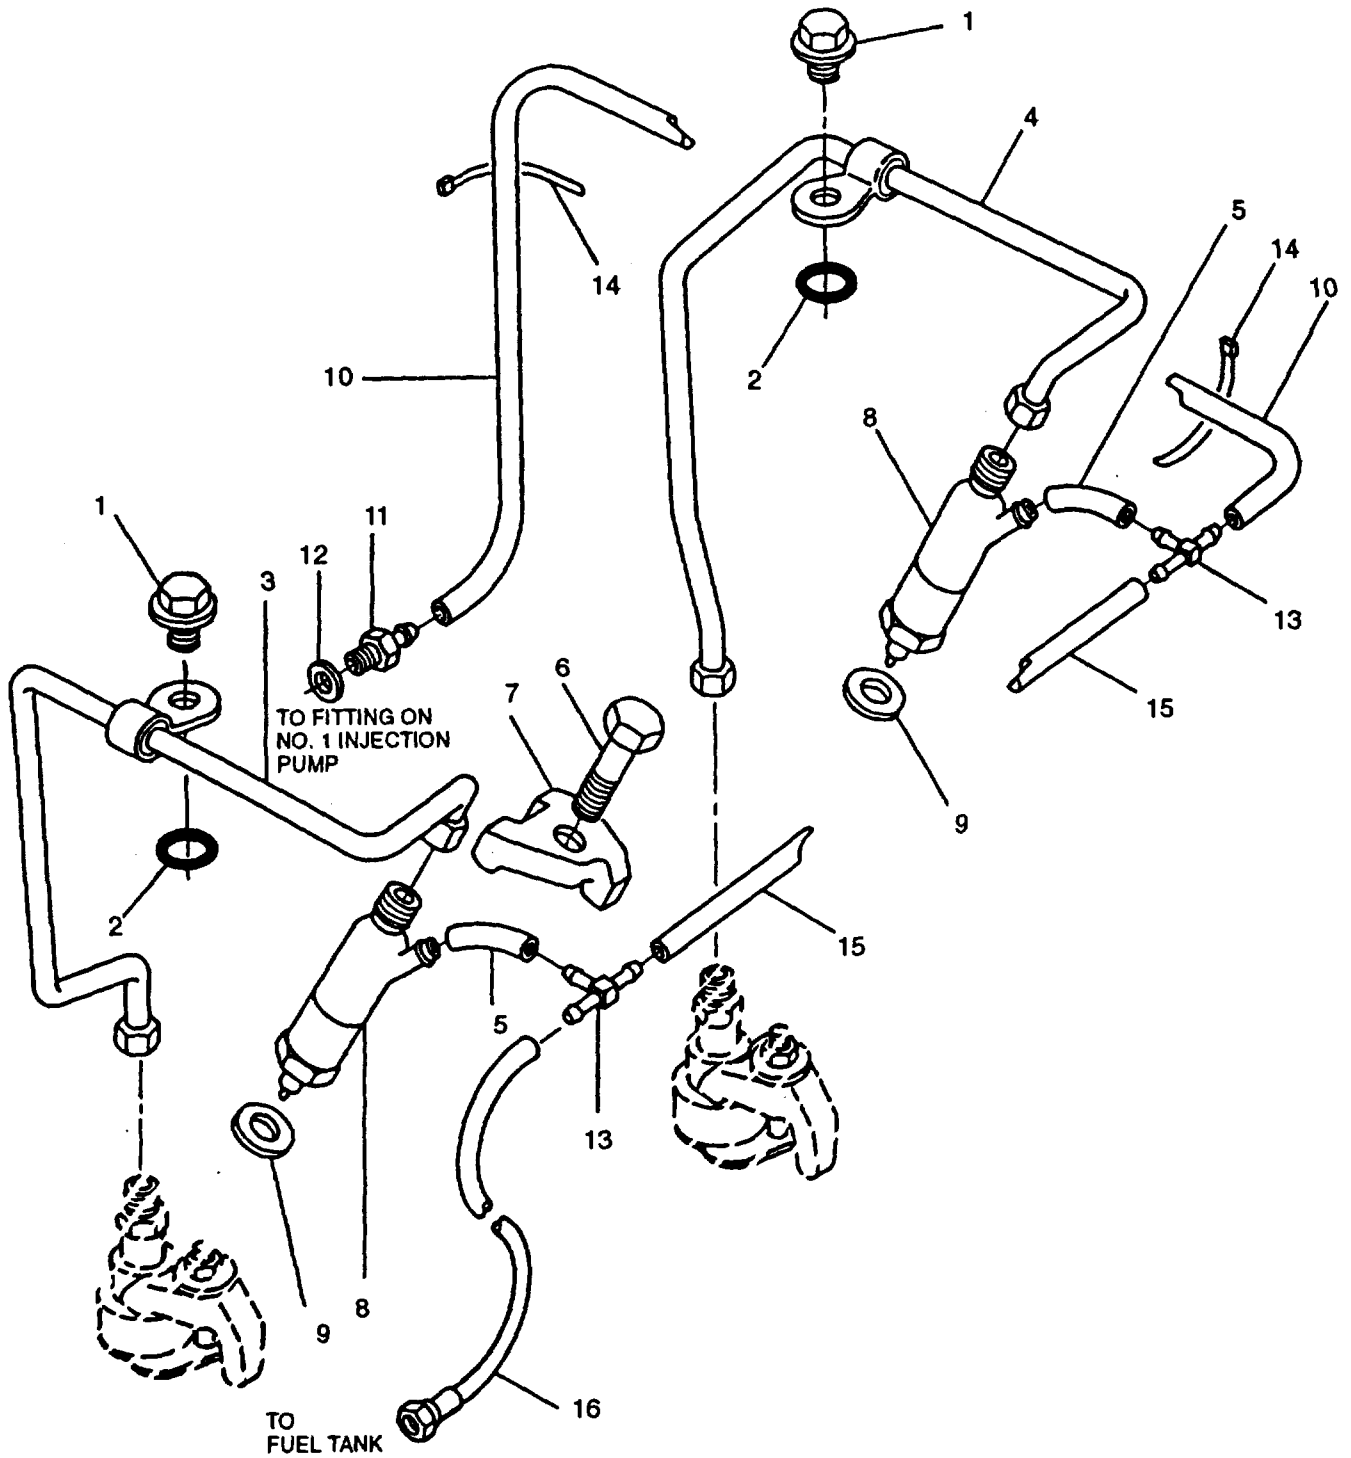

FIGURE 3-13. Fuel Injectors, Fuel Injector Pipes, and Fuel Return Line
- a. Disconnect and remove fuel injector pipe 3-3. or 4, FIGURE 3-13), refer to paragraph 3-18.1
- b. Disconnect fuel return hose (5) from injector (8).
- c. Remove bolt (6) securing clamp (7); remove clamp.
- d. Remove fuel injector (8) from cylinder head.
- e. Remove injector copper sealing washer (9) from cylinder head taking care not to damage seating area.
**If injector sealing washer (9, FIGURE 3-13) has been used more than once it will become compressed and may adversely affect combustion. It is recommended that new injector sealing washers are installed on assembly. Ensure that two washers are not installed to an injector.**
- c. Lightly smear a very small amount of general purpose grease (630AA) to one side of new injector sealing washer (9). Place one washer only over each injector nozzle greased side first.
- d. Install injector (8).
- e. Install clamp (7) and finger tighten bolt (6).
- f. Install a new preformed packing (2) into recess on cylinder head cover.
- i. Tighten injector clamp bolt (6) to 186 in-lbs (21.0 Nm).
- k. Install injector fuel return hose (5).
- a. Disconnect hose (10, FIGURE 3-13) from union (11).
- b. Remove union (11) and washer (12) from end of fuel supply hose.
- c. Disconnect hose (10) from tee fitting (13). Remove tiedown straps (14) and remove hose (10). Discard tiedown straps.
- d. Remove two hoses (5) from fuel injectors (8) and tee fittings (13).
- e. Remove tee fittings (13) from hose (15); remove hose (15).
- f. Disconnect hose (16) from tee fitting (13); remove hose (16).
- g. Loosen nuts on fuel injector pipes (3 and 4) at fuel injection pump and fuel injector (8).
- h. Remove cylinder head cover nuts (1) securing fuel injector pipes (3 and 4) clips; remove pipes (3 and 4). If damaged, replace preformed packing (2).
- b. Connect fuel injector pipes (3 and 4, FIGURE 3-13) to fuel injectors (8) and fuel injection pumps. Tighten nuts finger tight.
- c. Secure fuel injector pipe clips using cylinder head cover nuts (1). Tighten nuts to 78 in-lbs (8.8 Nm).
- d. Starting at fuel injector (8), tighten fuel injector pipes (3 and 4) nuts to 21.0 ft-lbs (28.5 Nm).
- e. Install tee fitting (13) into hose (16).
- f. Install tee fittings (13) in hose (15).
- g. Connect hoses (5) to tee fittings (13) and to fuel injectors (8).
- h. Connect hose (10) to tee fitting (13) and secure hose (10) with new tiedown straps (14).
- i. Install union (11) and washer (12) to end of fuel supply hose.
- j. Connect hose (10) to union (11).